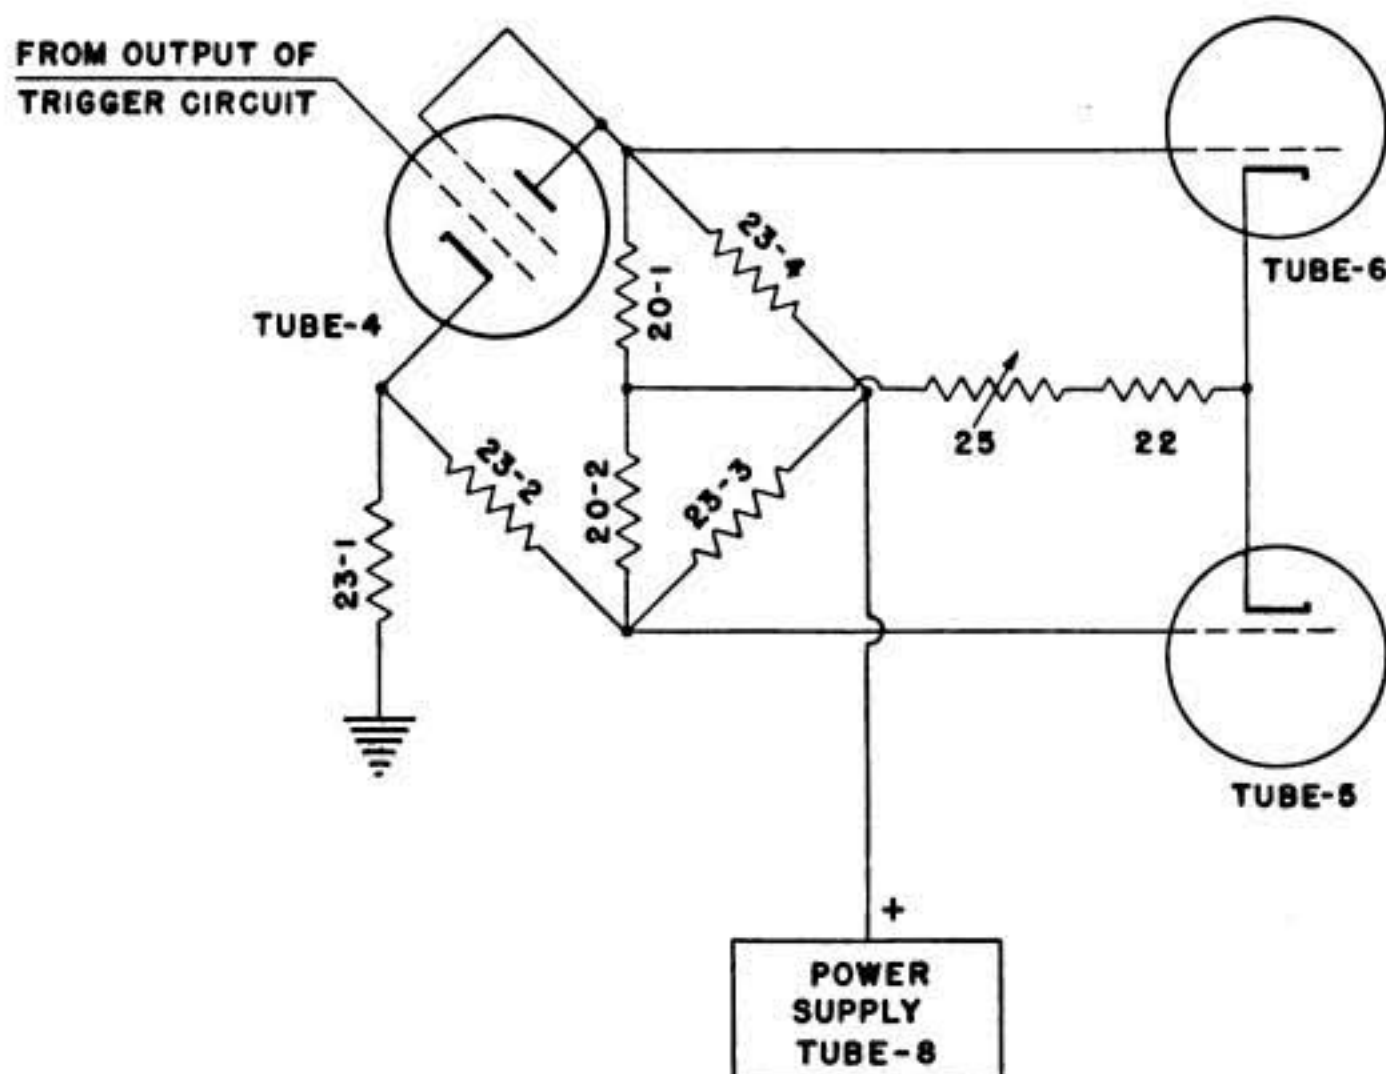

Figure 9—Recorder BC-1016, Bridge Circuit Shown in Detail
c. Tube 4 forms one arm of a bridge circuit, the other three arms being resistors 23-2, 23-3 and 23-4. This is shown in detail in FIG. 9. The voltage